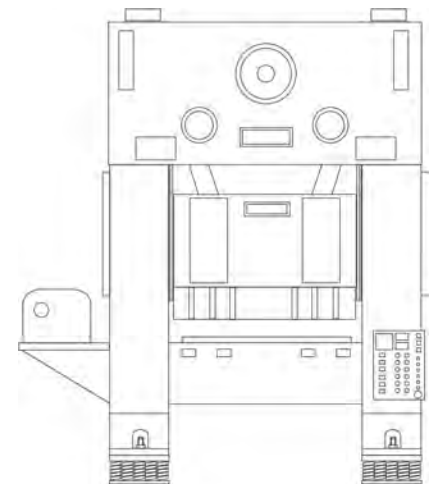

Figure 1
3. If a feed is rigidly attached to the press, then it must be totally supported by the spring mounts as shown in Figure 1. It cannot be partially supported by the press and the foundation or isolator performance will suffer. The weight of the feed must be considered at the time of the isolator selection and recommendation.